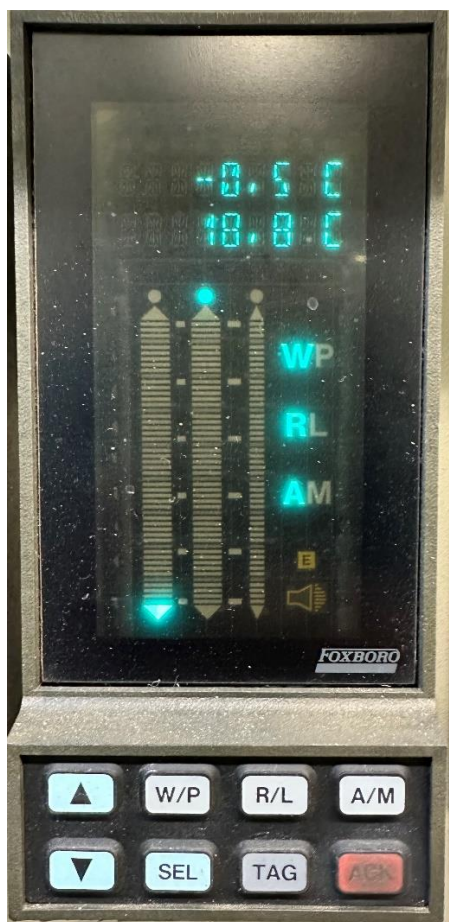

FIGURE 1
- b. Refer to Figure 1 for the button locations on the Foxboro keyboard/display called out in the following steps.